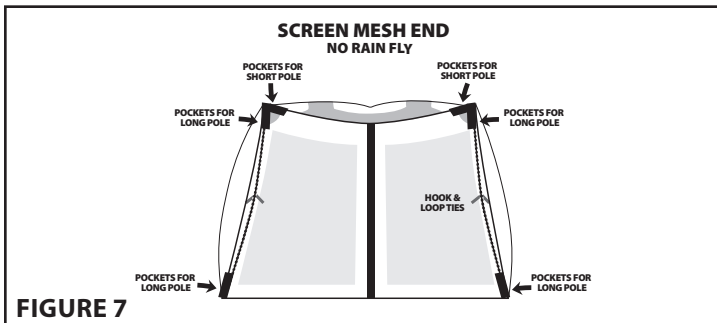

FIGURE 7
6. Locate the two (2) longest corded poles and assemble the corded section together to create one pole each. Place the assembled poles in the small pockets located at each inside corner of the vertical screen door. Fasten poles to the vertical seams with the hook and loop tie located about halfway up the seam. [**SEE FIGURE 7**]
7. Locate the one (1) shortest corded pole and assemble the corded section to create one pole. Place the assembled poles in the small pockets located at each inside upper corner of the vertical screen door. Fasten the poles to the horizontal seam with the hook and loop sleeve centered on the seam. [**SEE FIGURE 7**]